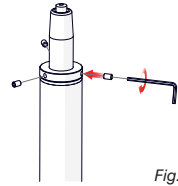

Fig.12
- Insert and fix the x3 M6 grub screw of the accessories bag to the ring holes and fix these firmly (Fig.12).